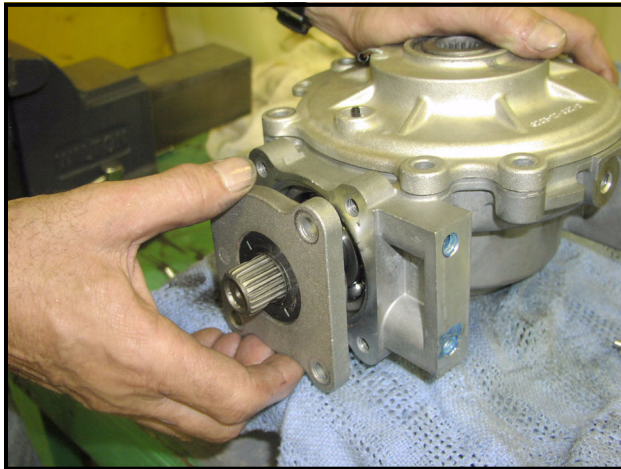

Figure 9-50 Input Cover Plate and Three-Lip Seal
14. Install input cover plate and three-lip seal on input shaft (**Figure 9-50, Page 9-17**).